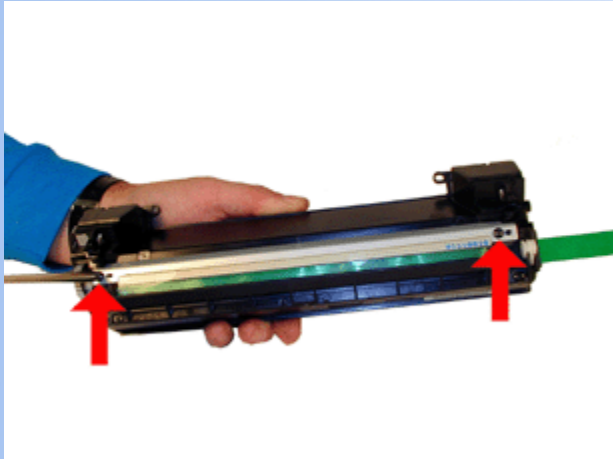

FIGURE 15
- 16. Re-install the Dr. Blade See Figure 15